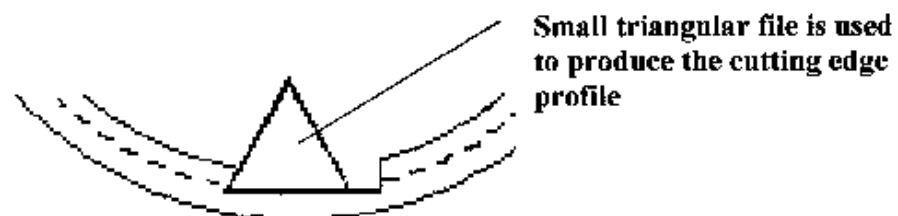

Figure 6 The GI Tee with detail of the cutting edge profile on thread
- File the left-hand side of the slot, as this will be the cutting edge, so that the profile is the same angle as the file i.e. 60° as shown in Figure 6.